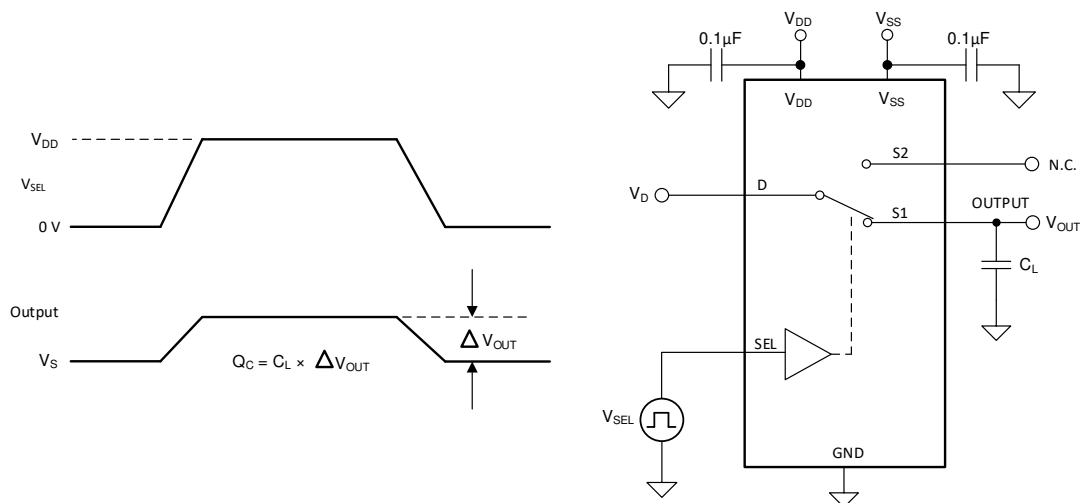

Figure 21. Charge-Injection Measurement Setup
The TMUX1119 has a transmission-gate topology. Any mismatch in capacitance between the NMOS and PMOS transistors results in a charge injected into the source or drain of the device during the falling or rising edge of the gate signal. The amount of charge injected into the source or drain of the device is known as charge injection, and is denoted by the symbol Q_C . Figure 21 shows the setup used to measure charge injection from Drain (D) to Source (Sx).